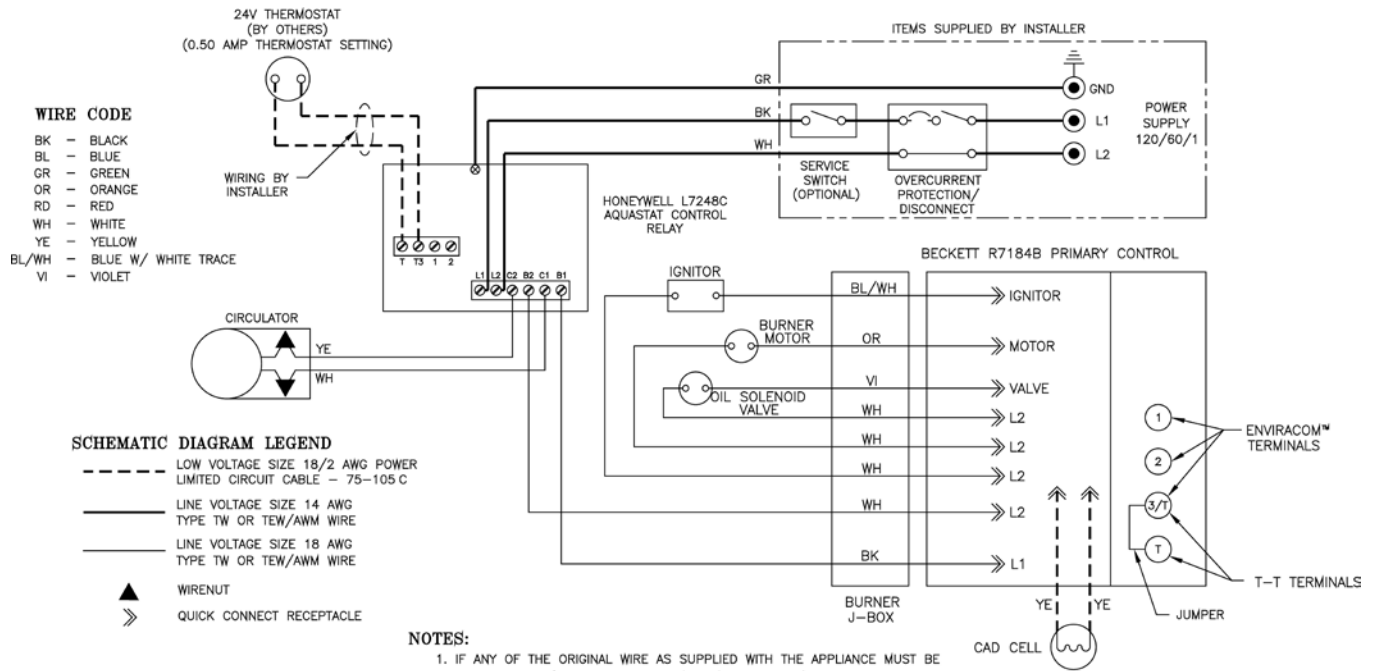

Figure 13: "RSAL" Wiring Less Tankless, Single Circulator
3. Wiring should conform to Figure 13 and/or 14.
3. Use armored cable (BX) over all exposed line voltage wiring.
5. Single Zone System – Refer to Figure 13 or 14 of this manual for the electrical diagram for this type of system. Connect the system circulator wire leads to the proper locations on the Aquastat control, L7224C/L7248C.